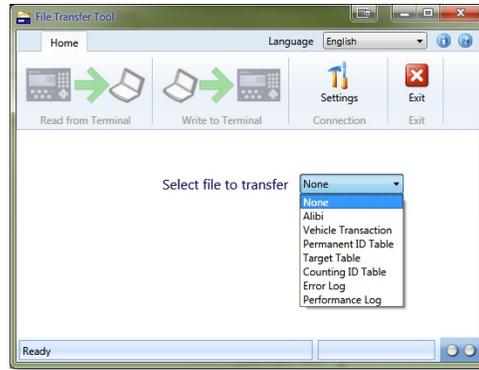

Figure 3-7: File Selection Dialog
1. On the Home tab of the IND246 File Transfer Tool, use the File selection dialog to select the file to written to the terminal, as shown in Figure 3-7.